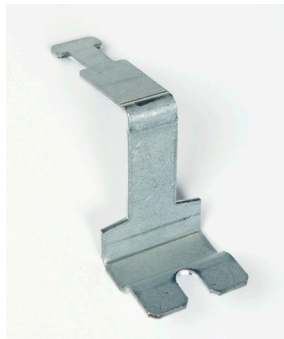
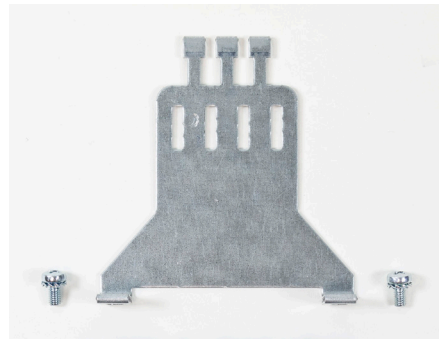

Figure 4.6 Shield plate C2 to C4
Figure 4.7 Shield plate C5
- Fasten the shield connection plate supplied (shield plate for C2 to C4 see Figure 4.6, shield plate for C5 see Figure 4.7) to the top of the device. Ensure the plate is in contact over a large area with the heat sink on the MSD Single-Axis Servo Drive Compact and with the backing plate. Use a serrated washer.